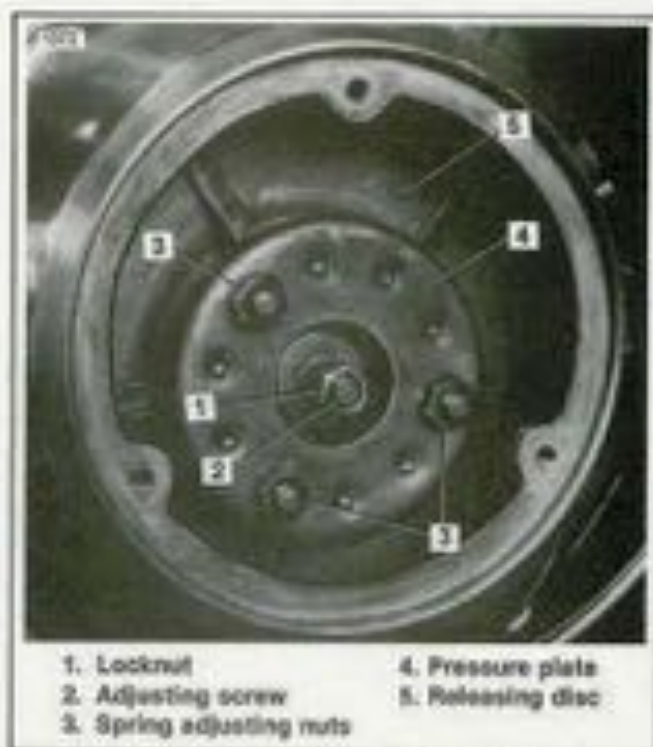

Figure 6-24. Push Rod Adjustment
3. See Figure 6-24. Remove the clutch cover on the
5. See Figure 6-24. Turn the screw (2) inward until contact is made with the push rod, then back off 1/8 turn. Tighten the locknut (1).
6. See Figure 6-24. Increase the tension on the spring adjusting nuts (3) 1/2 turn at a time until clutch holds. Test after each 1/2 turn by cranking the engine with the rear wheel raised off the ground. Do not increase spring tension any more than is necessary to make the clutch hold.
A new clutch is assembled so the distance from the pressure plate edge (4, Figure 6-24) to the releasing disc (5, Figure 6-24) is exactly 1-1/32 in. If springs are compressed so this distance is 7/8 in. or less, the clutch will probably not disengage.